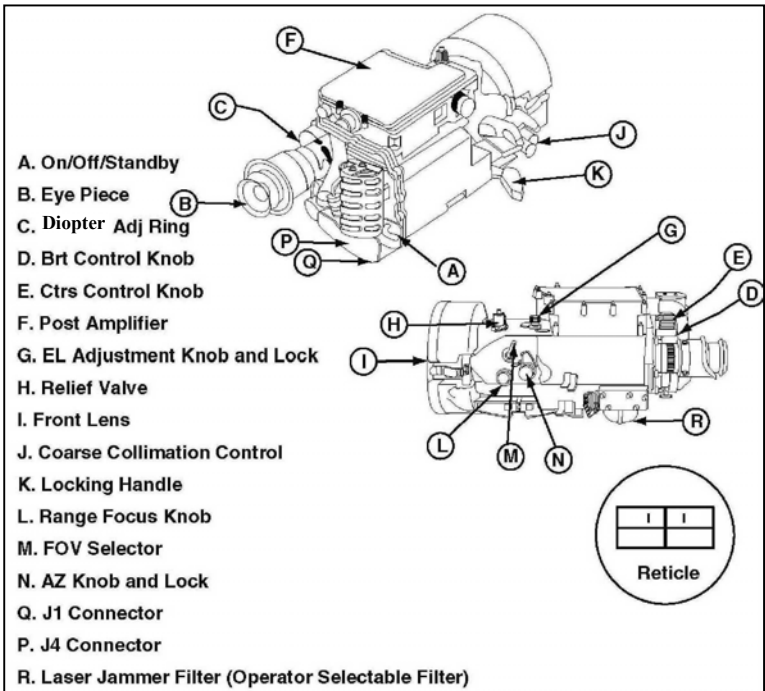

Figure 2-2-7: Thermal Sight
20. **Thermal Imagery (TI) Sight.** The TI sight is a passive, electro-optical instrument that uses thermal-imaging technology. It is used to allow the weapon system to track the target in conditions of darkness and reduced visibility. It is mounted on top of and collimated with the optical sight (see Figure 2-2-7):